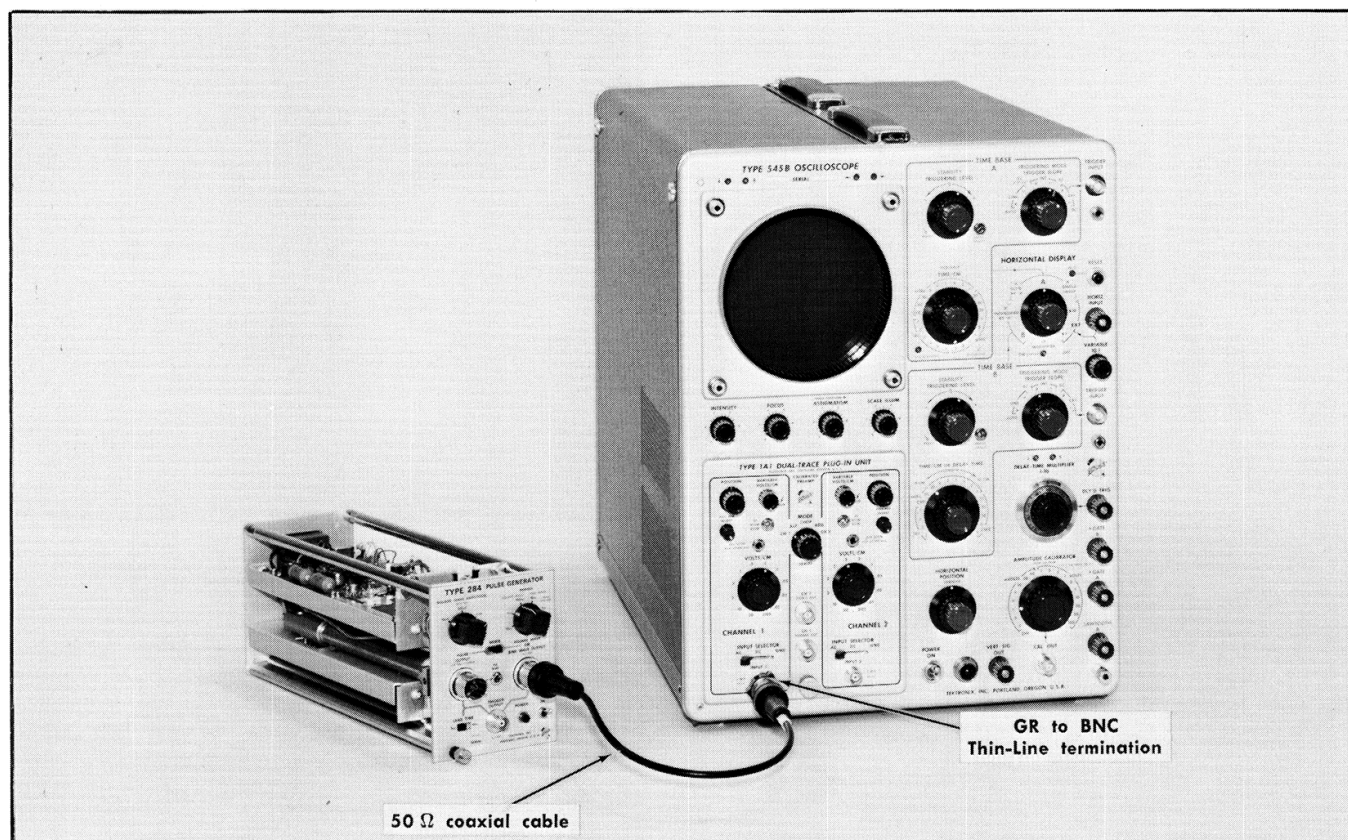

Fig. 6-9. Equipment setup for steps 5 and 6.
①
a. Use the equipment setup shown in Fig. 6-9. Obtain a stable display of the 100 ns period 10 MHz square wave signal on the test oscilloscope.